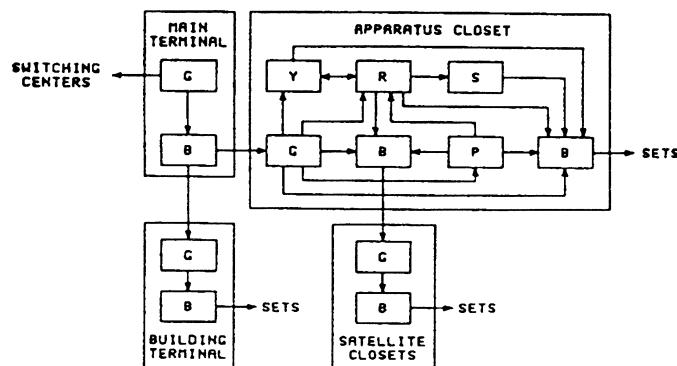

Figure 3
- figure 3 — key and PBX apparatus cross-connect terminal